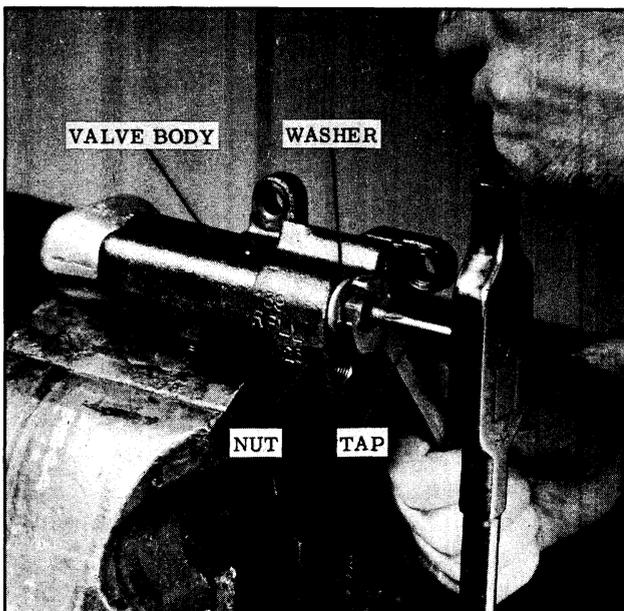

Fig. 5-36 Removing Connector
- Tighten nut to remove connector as shown in Fig. 5-36.